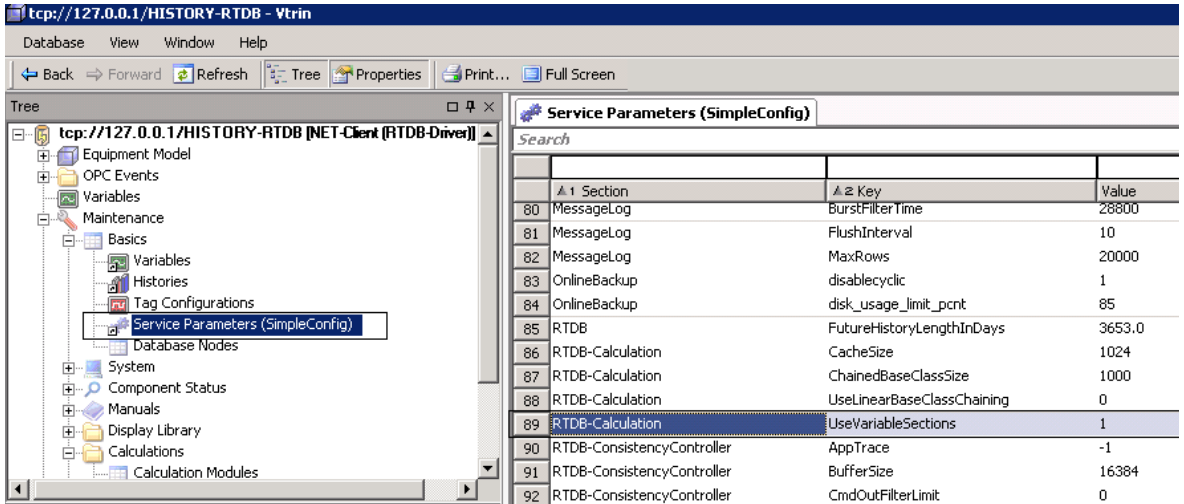

Figure 85. Service Parameters(SimpleConfig)
- d. Click the **Value** field and enter any non-zero value as shown in Figure 85.